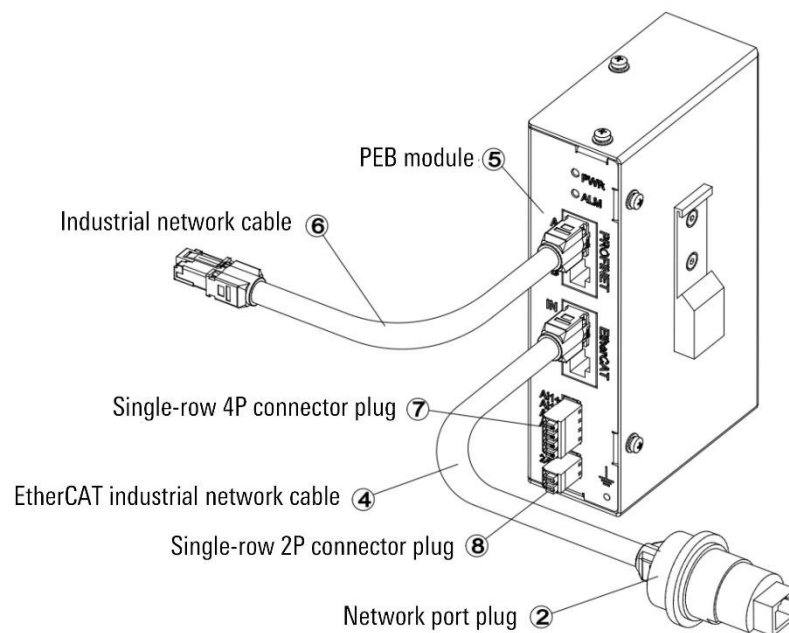

Figure 15-13 Diagram of the interface connecting to the PEB module
- Step4. Connect one end of the EtherCat industrial network cable to the network port plug of the cabinet and the other end to the EtherCAT/IN interface of the PEB module; Connect one end of the industrial network cable to the PROFINET/A interface of the PEB module, and the other end to the user's own PLC module, refer to Figure 15-13.